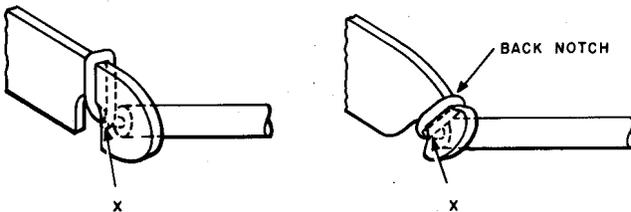

Fig. 3—Termination of Wire on Protector (Notch on Underside of Terminal)
**7.04** To terminate a wire on the terminal of a protector where the notch appears on the underside of the terminal, as shown in Fig. 3, bring the wire under the terminal, up through the notch, along the front of the terminal, over the top edge, or through the back notch, where provided, and down the rear side, making one complete turn of bare wire around the terminal. Break the excess